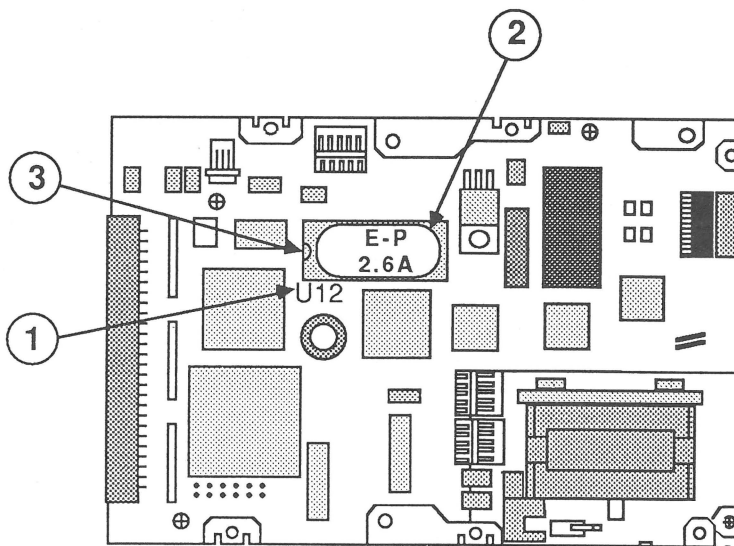

FIGURE 1
One model of the Hard Disk 20SC must be upgraded from Rev. 2.6A to function properly in a Macintosh II/Ix. This model is represented by the controller board shown in Figure 1. Before you install a 3.5-inch, 20 MB hard drive service module in a Macintosh II/Ix, follow the steps below to make sure you have the proper revision.
2. Compare the layout of the service module's controller board to the board layout shown in Figure 1. If they don't match, the service module does not need to be upgraded. If they **do** match, continue to step 3.
3. Locate the 28-pin EPROM at U12 (Figure 1, #1) and check to see if it is labeled "2.6A" under the heading "E-P" (Figure 1, #2). If it is, continue to step 4. (If it is **not** labeled "2.6A," nothing needs to be done.)
4. Note the direction of the notch (Figure 1, #3) at the end of the EPROM. (You will need to install the new EPROM the same way.)